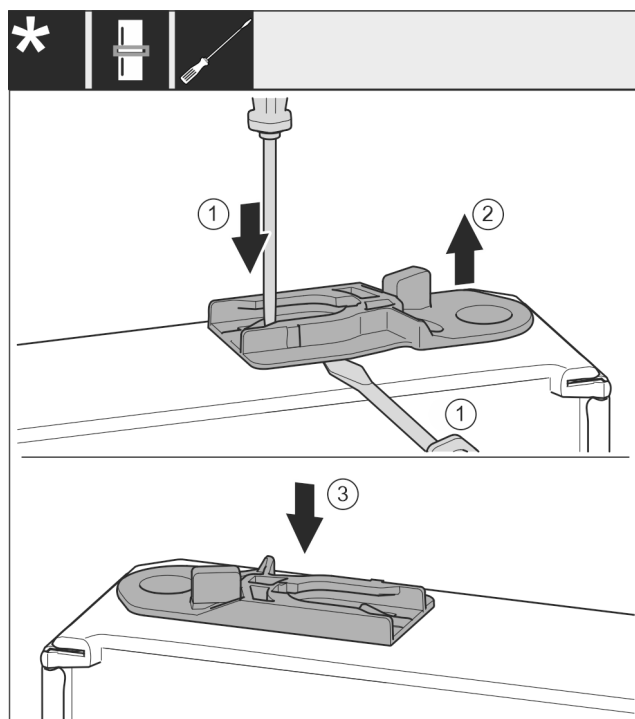

Fig. 39
- Pull out the guide bush: Press the tab Fig. 39 (1) with a flat-blade screwdriver and at the same time move the flat-blade screwdriver under the guide bush Fig. 39 (2).
- Insert the guide bush Fig. 39 (3) supplied on the other side of the housing.